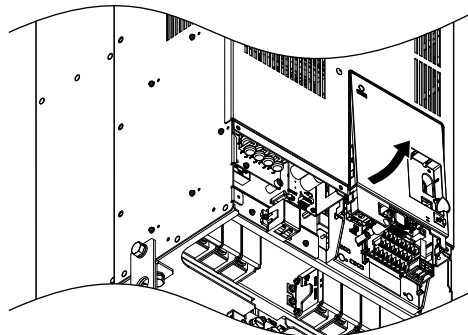

Figure 3.19 Remove the Front Cover (Models 2□0154 to 2□0248 and 4□0156 to 4□0414)
4. Unhook the left side of the front cover then swing the left side towards you as shown in Figure 3.19 until the cover comes off.